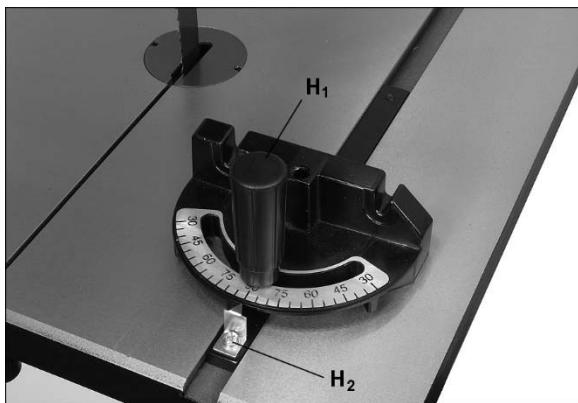

Figure 5-9
Refer to Figure 5-9.
3. If miter gauge is not square to blade, loosen lock knob (H_1 , Figure 5-9) and adjust to proper setting. Tighten lock knob.